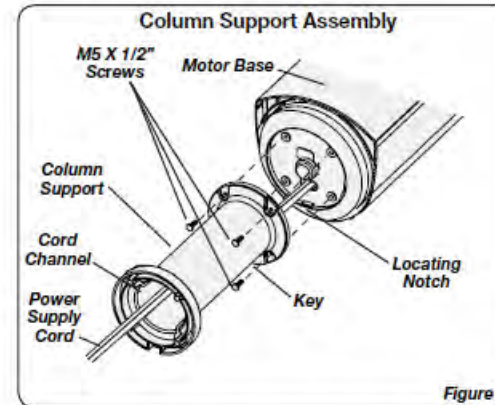

Figure 1
2. Locate the **Power Supply Cord** at the bottom on the Fan. Place the **Power Supply Cord** through the **Cord Channel** of the **Column Support**. (**Figure 1**)
3. Attach the **Column Support Assembly** to the **Motor Base** with (4) **1/2" Long M5 Screws**. Make certain to align the **Key** on the **Support Column Assembly** with the **Locating Notch** on the **Motor Base**. (**Figure 1**)